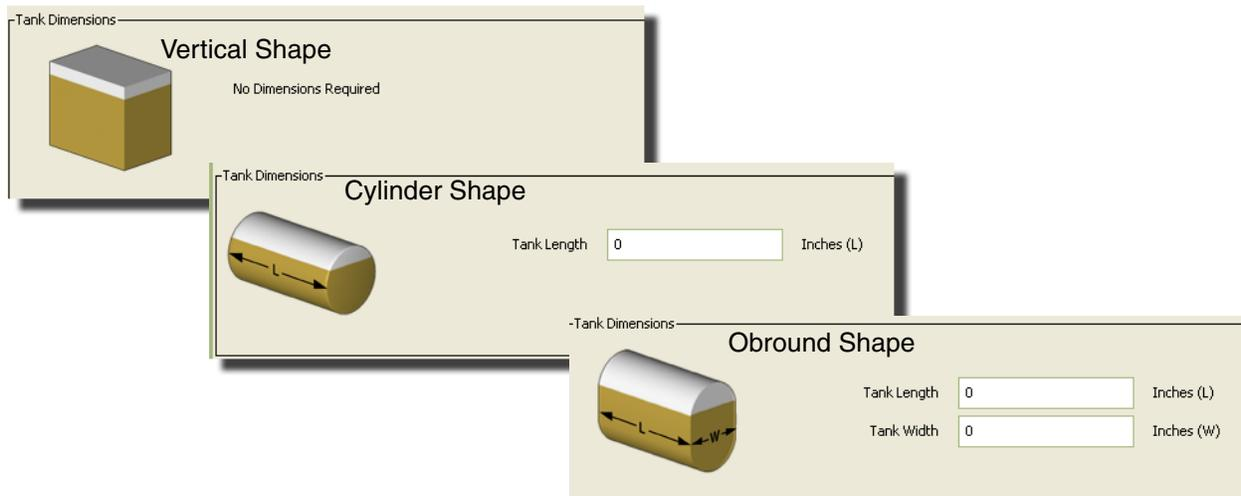

FIG. 74
- **Tank Shape:** select either vertical (default), cylinder or obround. Additional dimension information is required for Cylinder and Obround shaped tanks (See FIG. 74).